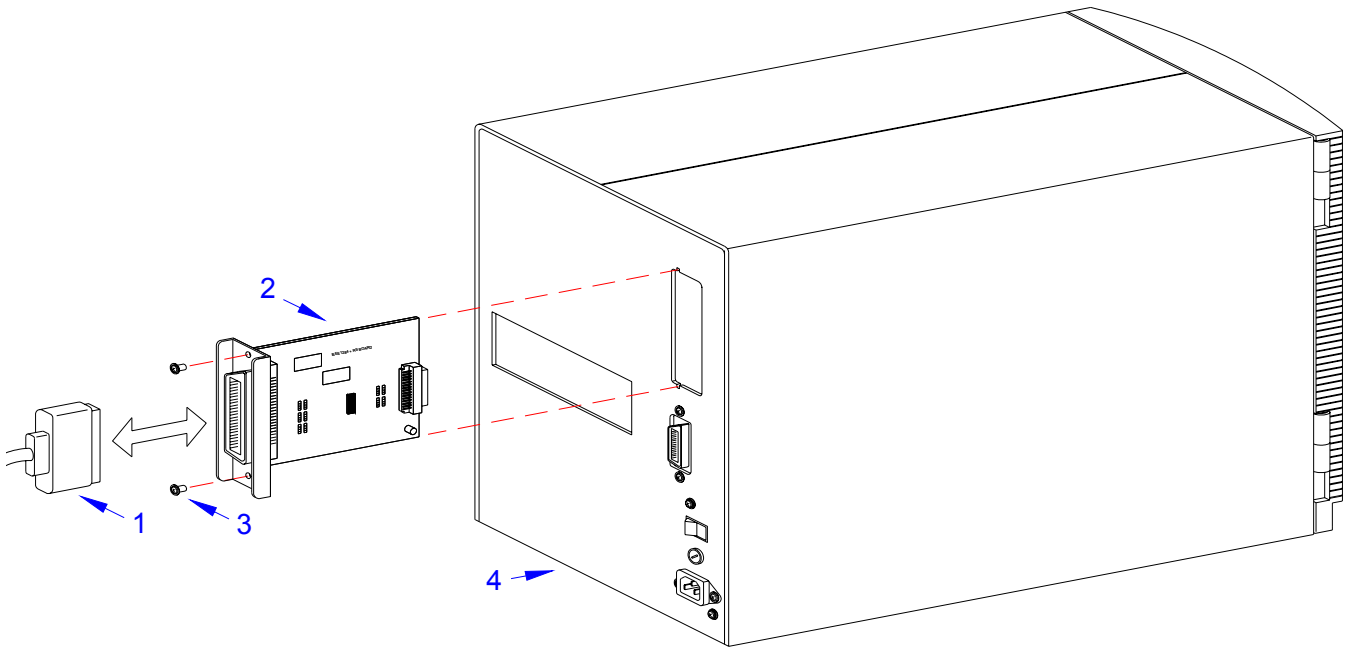

Figure 6-2, Interface Board Replacement
2. Disconnect interface cable (1, Figure 6-2) from defective interface board (2).
3. Remove two screws (3) securing defective interface board (2) to printer (4).
4. Insert replacement interface board (2) into printer (4) and secure using two screws (3).
5. Connect interface cable (1).